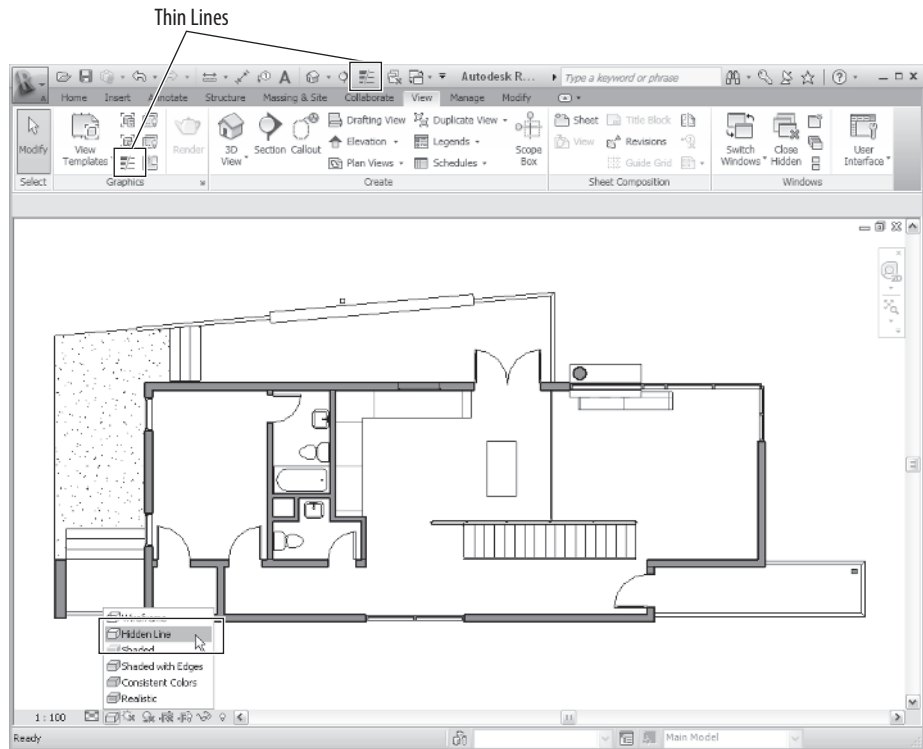

Figure 1.23 Activating Hidden Line and Thin Lines modes
3. Select Hidden Line from the rendering menu at the bottom of the screen, if it's not already selected (Figure 1.23).